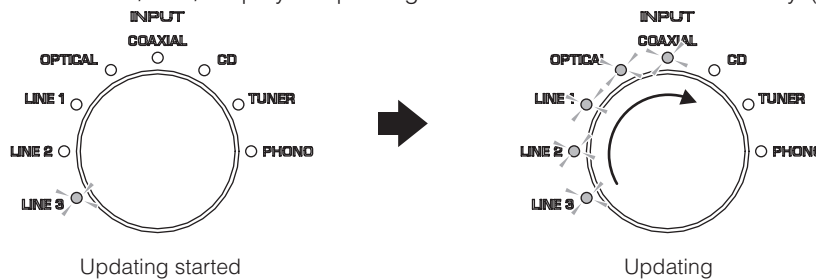

Fig. 3
2. Play the firmware CD on the CD/DVD/BD player. Updating of the firmware starts automatically. (Fig. 3)